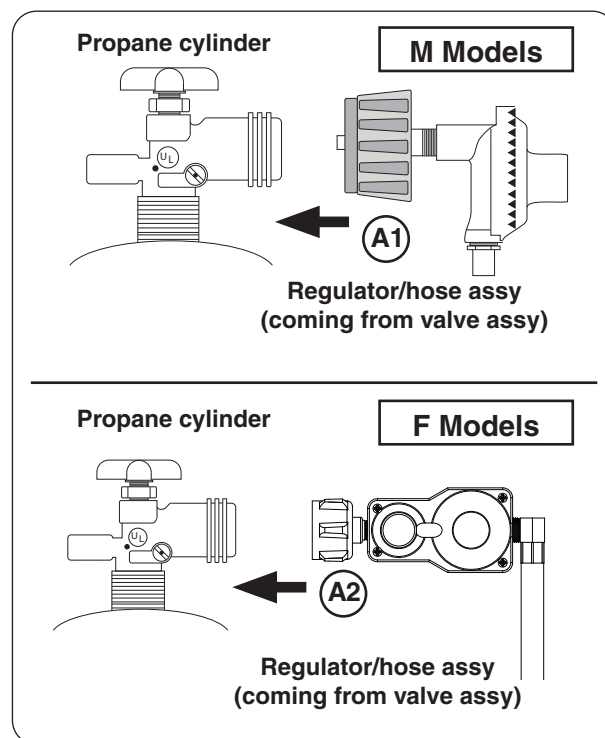

Fig. 29-1 Connecting to an L.P. cylinder
2. Attach the regulator end of the hose assembly to a propane cylinder (not included) and tighten (see Fig. 29-1).